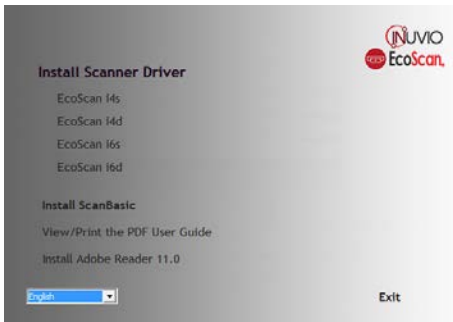

Fig. 1
- The installation program will begin automatically (Fig.1).
- g) At the end of the driver installation process you will be redirected back to the main menu (Fig.1).